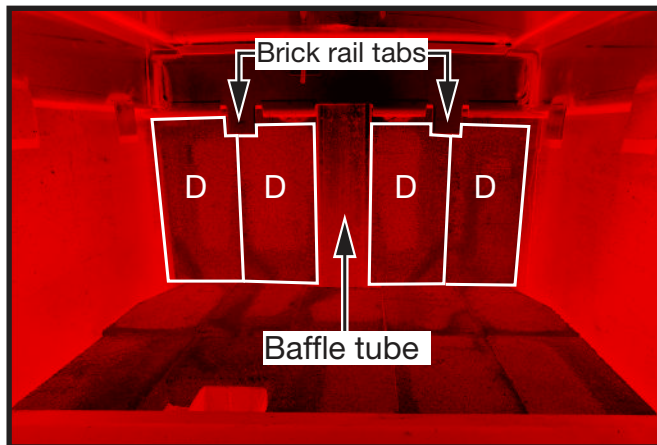

Figure 17: Rear wall bricks.
3. Slip 4 "D" bricks up behind the two protruding brick rail tabs along the rear wall (Figure 17). Eliminate any gaps between the bricks by shifting the bricks in toward the baffle tube.